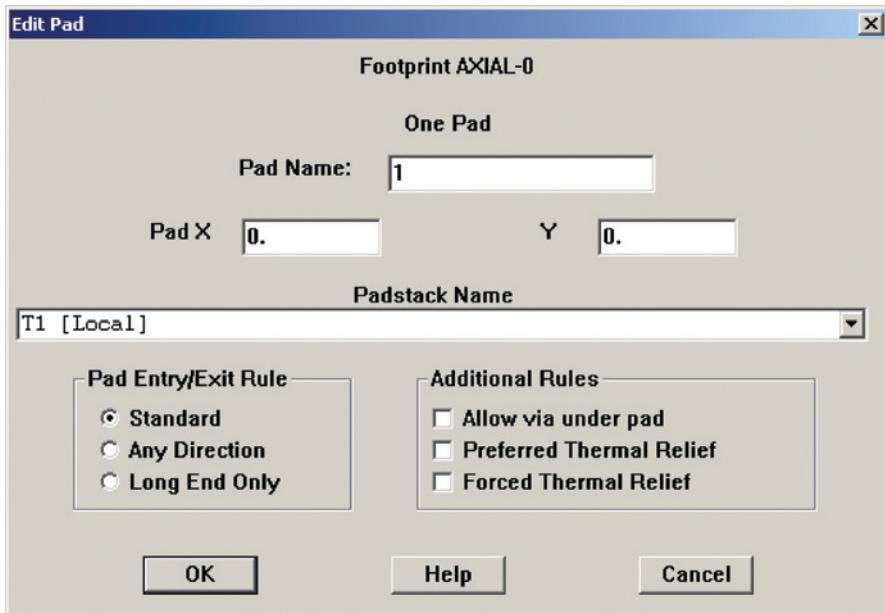

Figure 8-18 The **Edit Pad** dialog box.
The **Edit Pad** dialog box is shown in Fig. 8-18. To display the **Edit Pad** dialog box:
4. The **Edit Pad** dialog box shown in Fig. 8-18 will be displayed.
The padstacks that are included in the **Padstacks** spreadsheet are limited to the seven template padstacks and the padstacks of the footprint you have open. The **Padstacks** spreadsheet is used to make detailed changes to a padstack; it can be used to make new padstacks; and it can be used to save a padstack to a library (either the padstack library or any other library you chose). If you save a padstack to a library, it will become a public entity and will be visible in the **Padstack Name** selection list from within any board layout whenever the **Edit Pad** dialog box (see Fig. 8-18) is displayed.